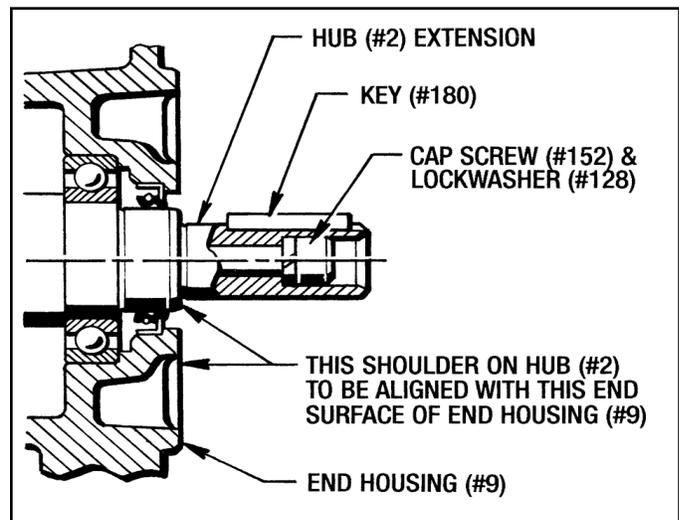

Figure 4 - Hub Alignment
NOTE - The Hub (#2) will be pulled in as the Screw (#152) is tightened. Re-align the Hub (#2) by pulling it outward while tightening the Screw (#152). The shoulder on the Hub (#2) should be in approximate alignment with the End Housing (#9) as shown in Figure 4.
1. Attach the Drive Motor and Brake Assembly to the Gear Box or Driven Machinery with the (4) 3/8"-16 Mounting Bolts (Customer Furnished). **Torque to 25 Lb. Ft.** Connect the coupling as per manufacturer's specifications.
2. If the Drive Motor is to be bolted down to the base, use motor shims under the feet to properly align the drive motor with the gear reducer as shown in Figure 4. **This is very important so the Coupler Brake will not be pulled down or pushed up.**